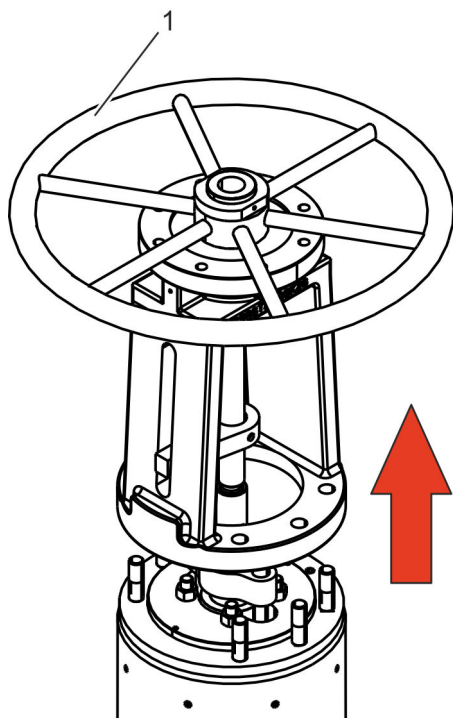

Fig. 25: Taking off the bonnet
7. → Move the handwheel (Fig. 25/1) in the closing direction.